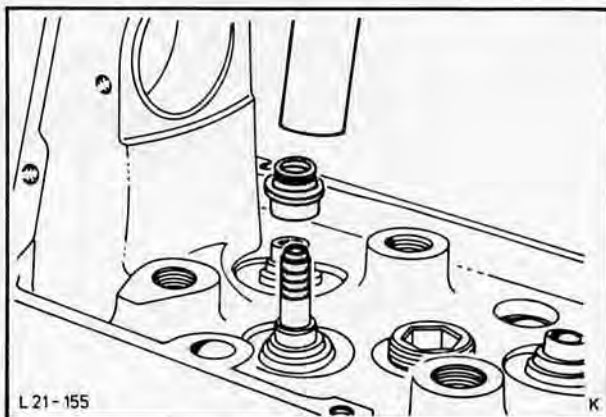

Fig. 175. Fit valve stem seal, using Special Tool 21-007, 'B' engine
5. Lubricate valve stem seal and install (on 'B' engine using Special Tool 21-007), Fig. 175. Remove adhesive foil from valve stem.